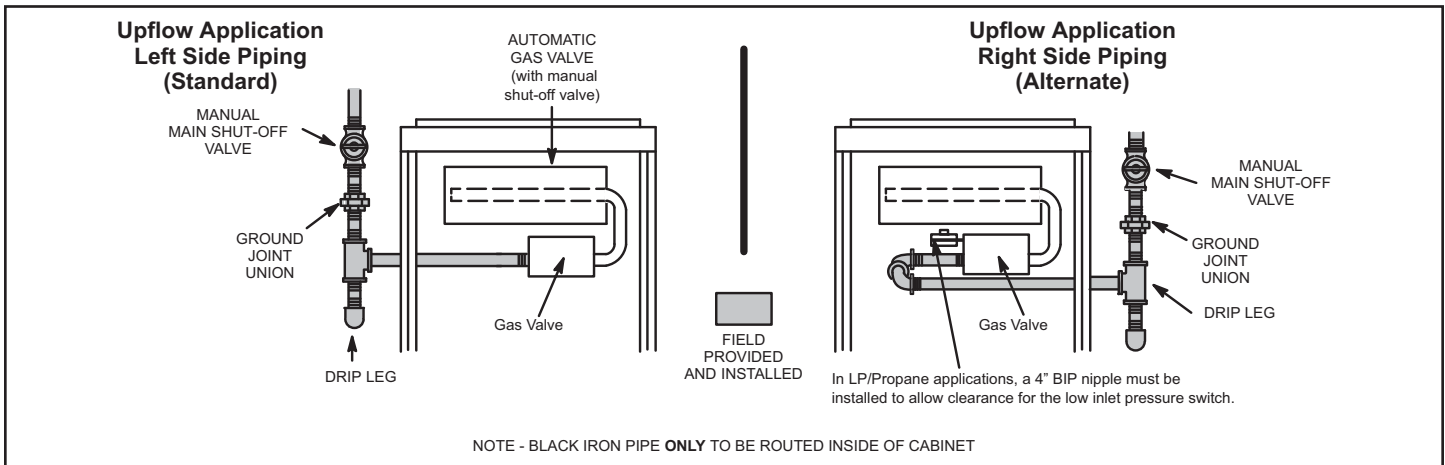
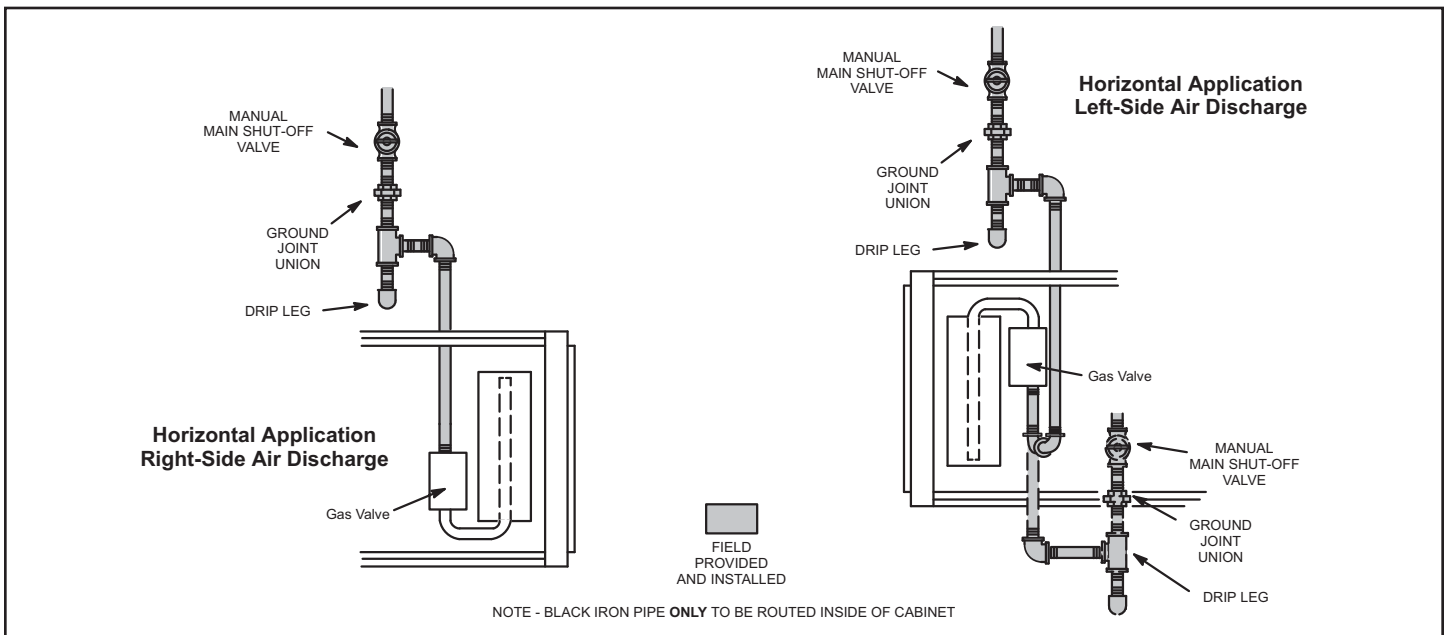

Figure 39. Upflow Applications Possible Gas Piping Configurations
Figure 40. Horizontal Applications Possible Gas Piping Configurations
1. Gas piping may be routed into the unit through either the left or right hand side in upflow applications, and either the top or bottom in horizontal applications. Supply piping enters into the gas valve from the side of the valve as shown in Figure 39 and Figure 40.
3. Gas piping must not run in or through air ducts, clothes chutes, chimneys or gas vents, dumb waiters or elevator shafts. Center gas line through piping hole. Gas line should not touch side of unit. See Figure 39 and Figure 40.